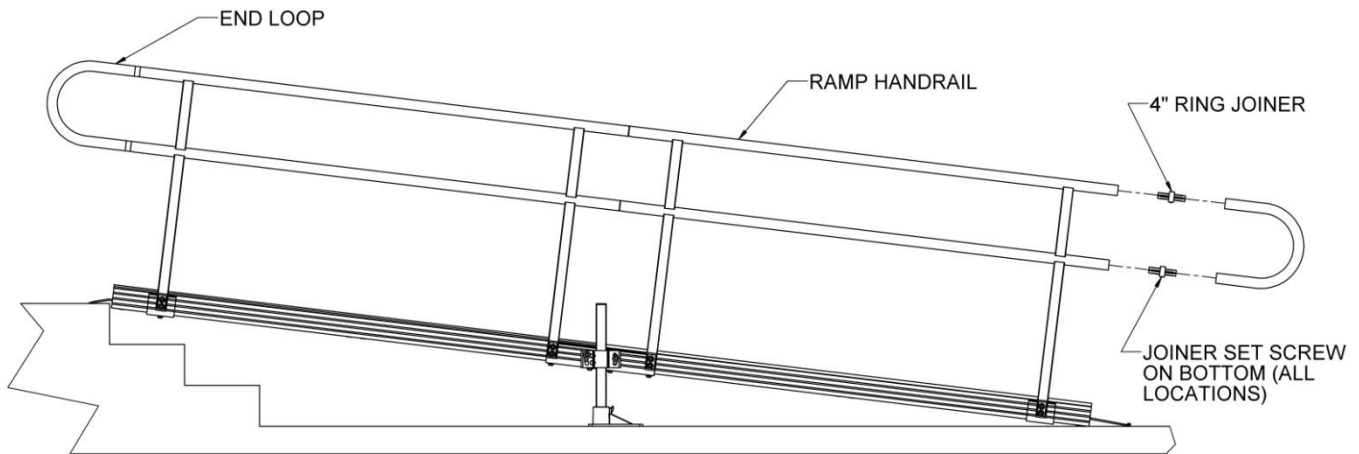

FIG. 4.6
- 4.4.2. Locate MRHRL (HANDRAIL END LOOP SINGLE). Install 4" ring joiner into open ends of each ramp handrail tube with the joiner set screws oriented to the bottom (FIG. 4.6).